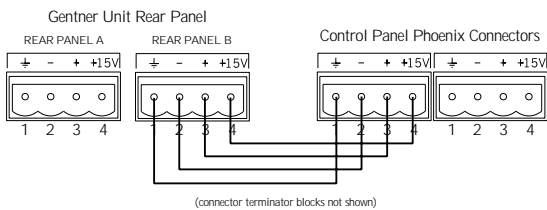

Figure 3. RS-485 Phoenix Connector
**Step 1** Ensure you received a fascia plate; a Control Panel assembly with mounting bracket and two RS-485 Phoenix™ four-pin connectors; two connector terminator blocks; a faceplate; two flat HD screws; two pan-head screws; and an electrical wall box. Refer to Figures 3, 4, and 5 for depictions of these parts. If any parts are missing, please contact Gentner.
**Step 4** Plug a connector terminator block into one of the XAP 800's Remote Panel connectors. Next, connect a Cat 5 twisted-pair cable to the connector terminator block. Referring to Figure 3, use one twisted wire pair for the center - and + connections (pins 2 and 3) and the other twisted pair for the ground and +15V connections (pins 1 and 4). Failure to do so can result in incorrect control and status due to crosstalk.